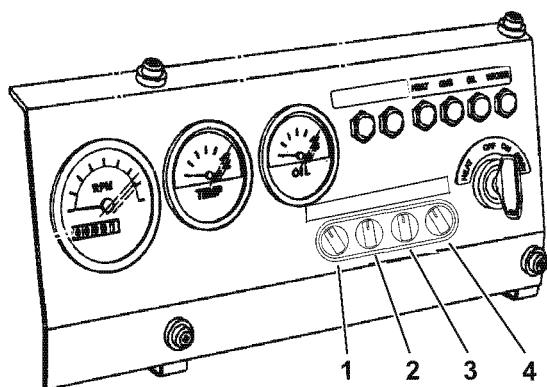

Figure 22
Note: **Figure 22** Typical operator's console and switch arrangement.
A certain ON/OFF combination of switches (1) - (4) on the operator's console **Figure 22** will implement this optional feature. For details, see the operation manual for the driven machine.
Other optional features can be provided by selecting certain ON/OFF combinations of switches (1) - (4) on the operator's console **Figure 22** will implement this optional feature. For details, see the operation manual for the driven machine.